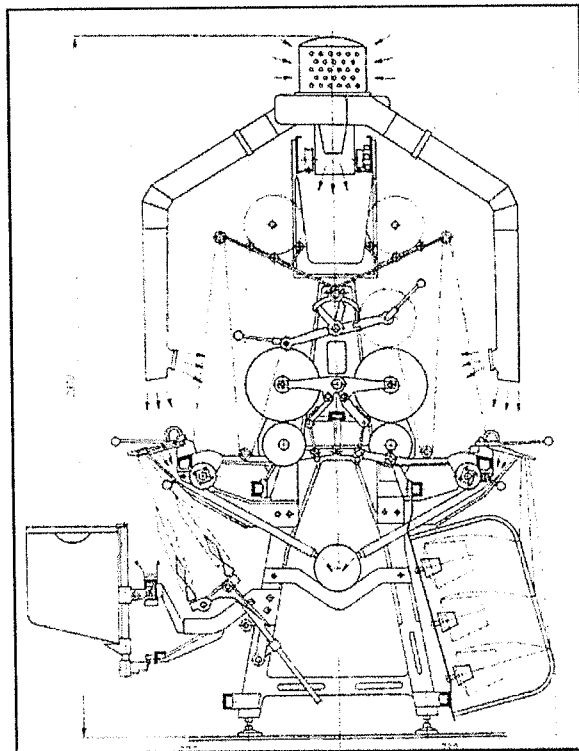

Figure 02.
- a) What is a doubler winding? Explain the working principle of a doubler winding machine with reference to the Figure 02. (08 marks)